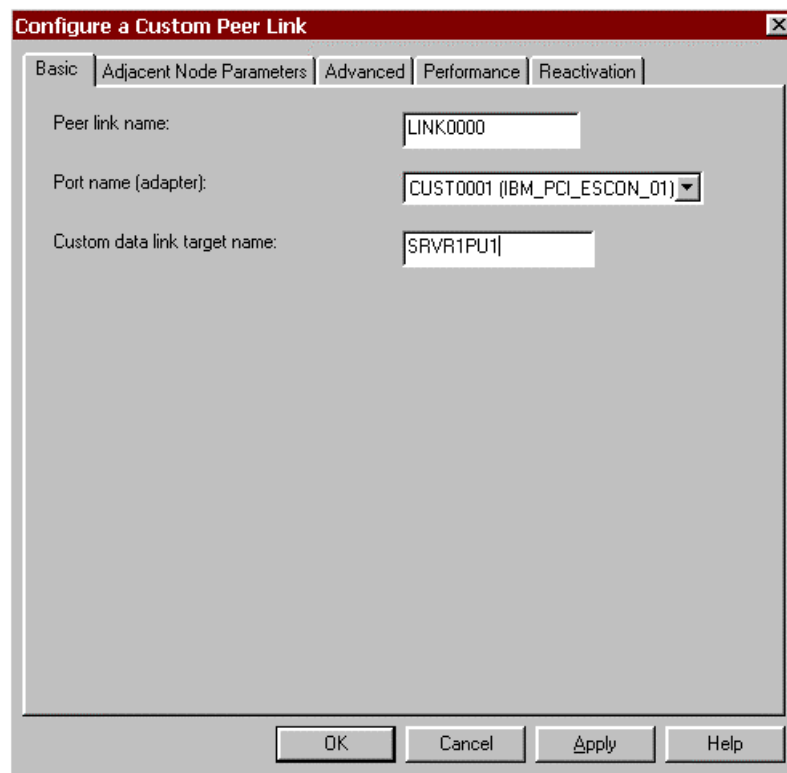

Figure 11-26. Configure a Custom Peer Link - Basic
2. The **Basic** tab of the *Configure a Custom Peer Link* screen (Figure 11-26) will display. Note that the **Reactivation** is new beginning in version 4 of the configuration utility.